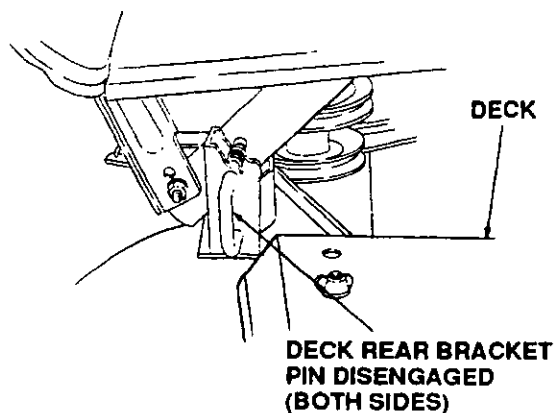

Figure 37
15. Pull deck rear bracket pins outward, turn downward and release so both spring loaded pins are held against the outside surface of the brackets in their disengaged positions. (Refer to Figure 37.)